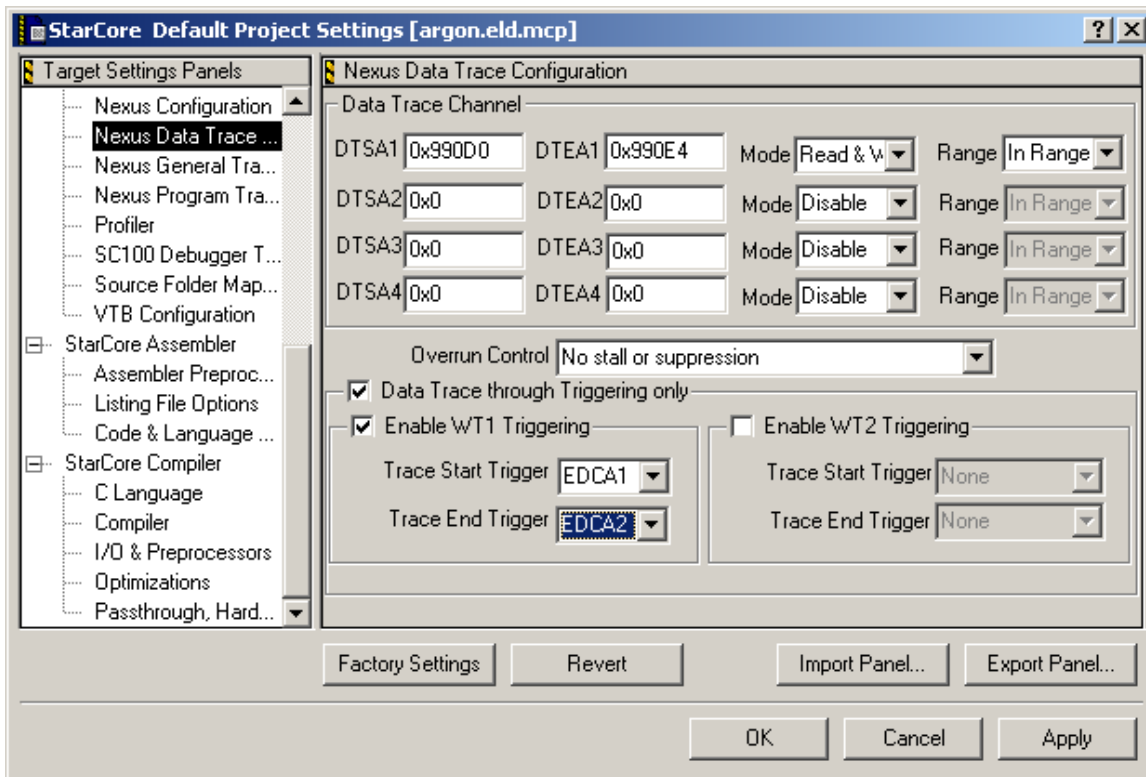

Figure 27: Nexus Data Trace Configuration
- c. Nexus Data Trace Configuration: Figure 27: Nexus Data Trace Configuration shows the Data Trace configuration. This essentially configures a single channel of data tracing similar to the example in Section Data Trace: Monitor FIFO activity.